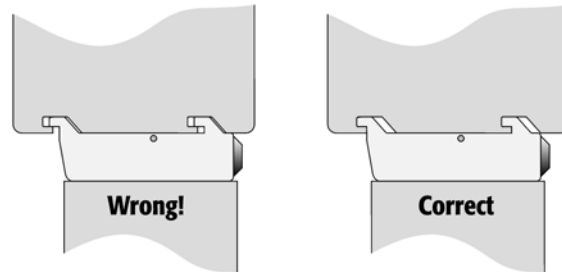

Figure 5. Attachment of Mounting Claws
- 2 Double check if the legs and stack claws are correctly attached to the X Crossrail (see Figure 5, page 19).
- 4 Double check if the two Trayholder clamps are correctly attached to the X Crossrail (see Figure 5).